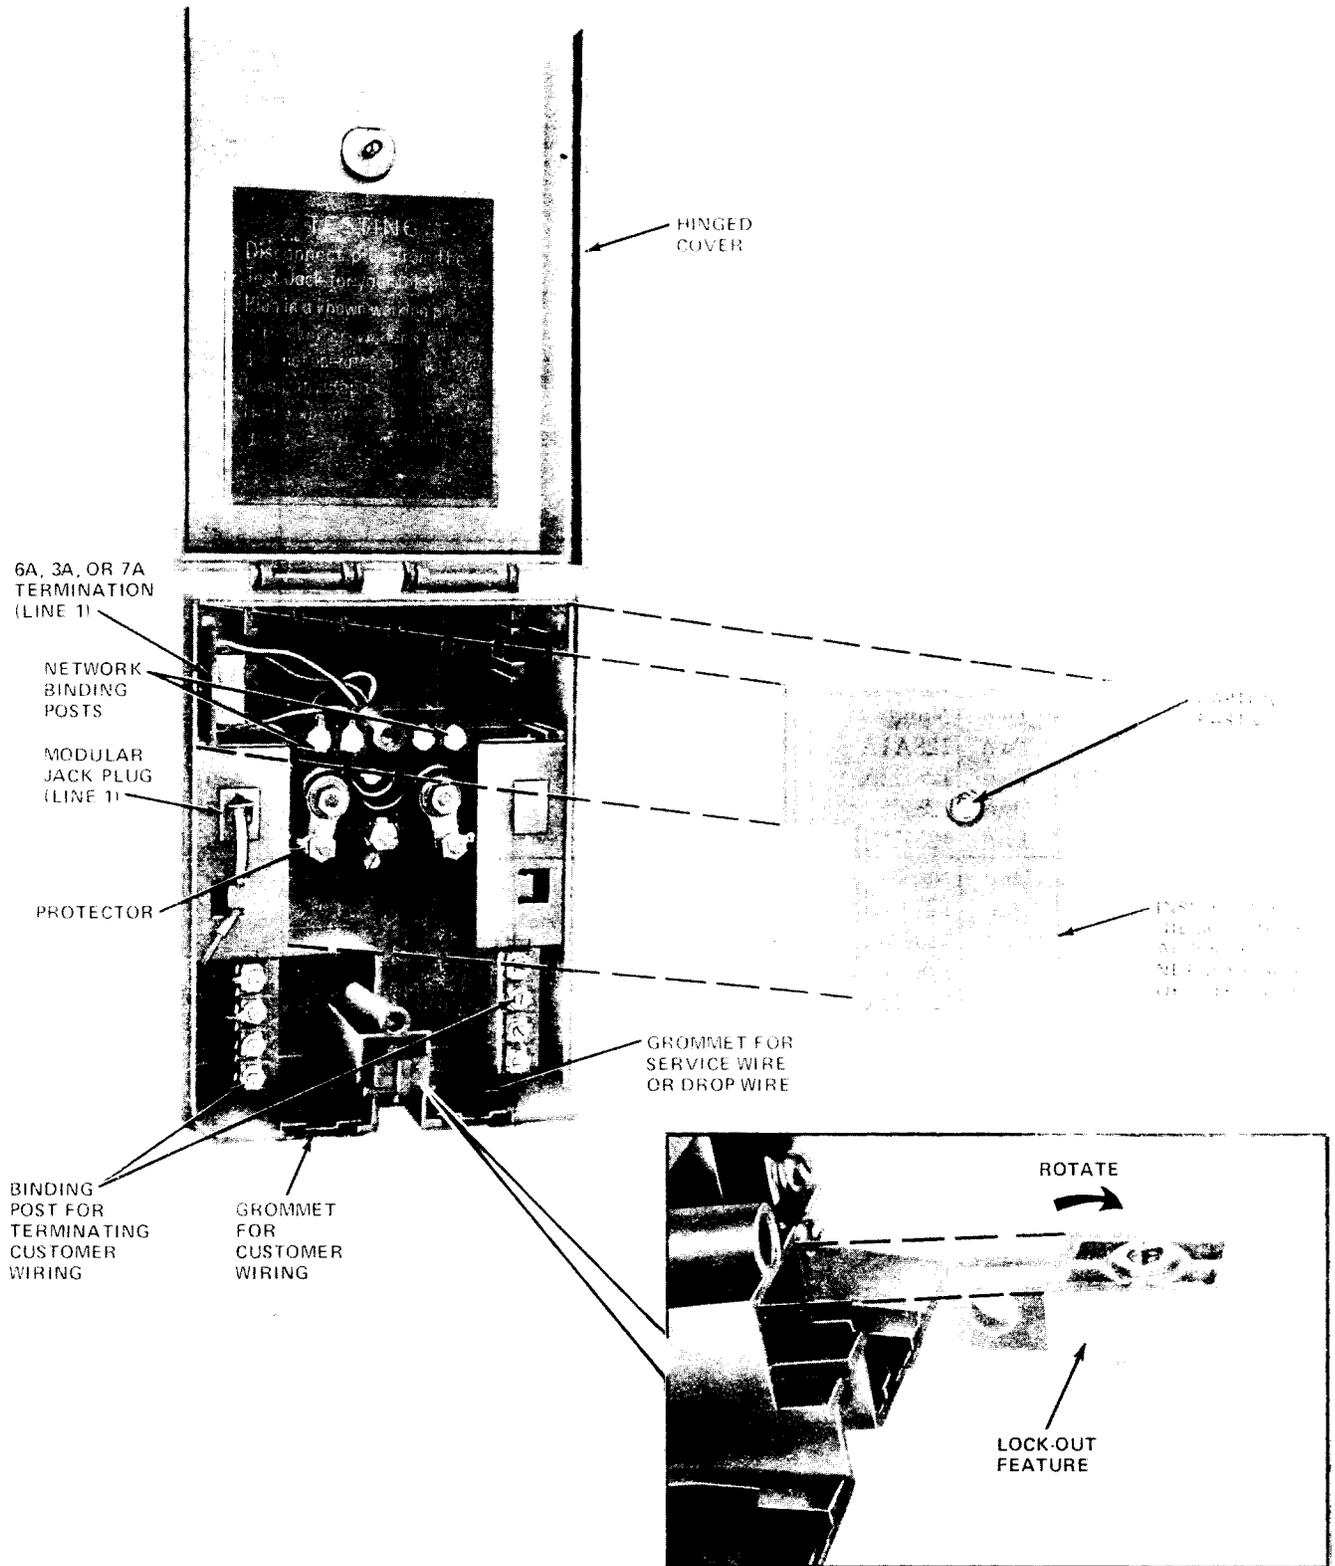

Fig. 1 — 200 Series NIU (Network Interface Unit)
2.01 The 200 series NIUs (Fig. 1) consist of a housing with a hinged cover, provisions for two modular plugs and jacks, termination of subscriber wiring, and grommets for entry of drop wire or service wire and subscriber wiring.